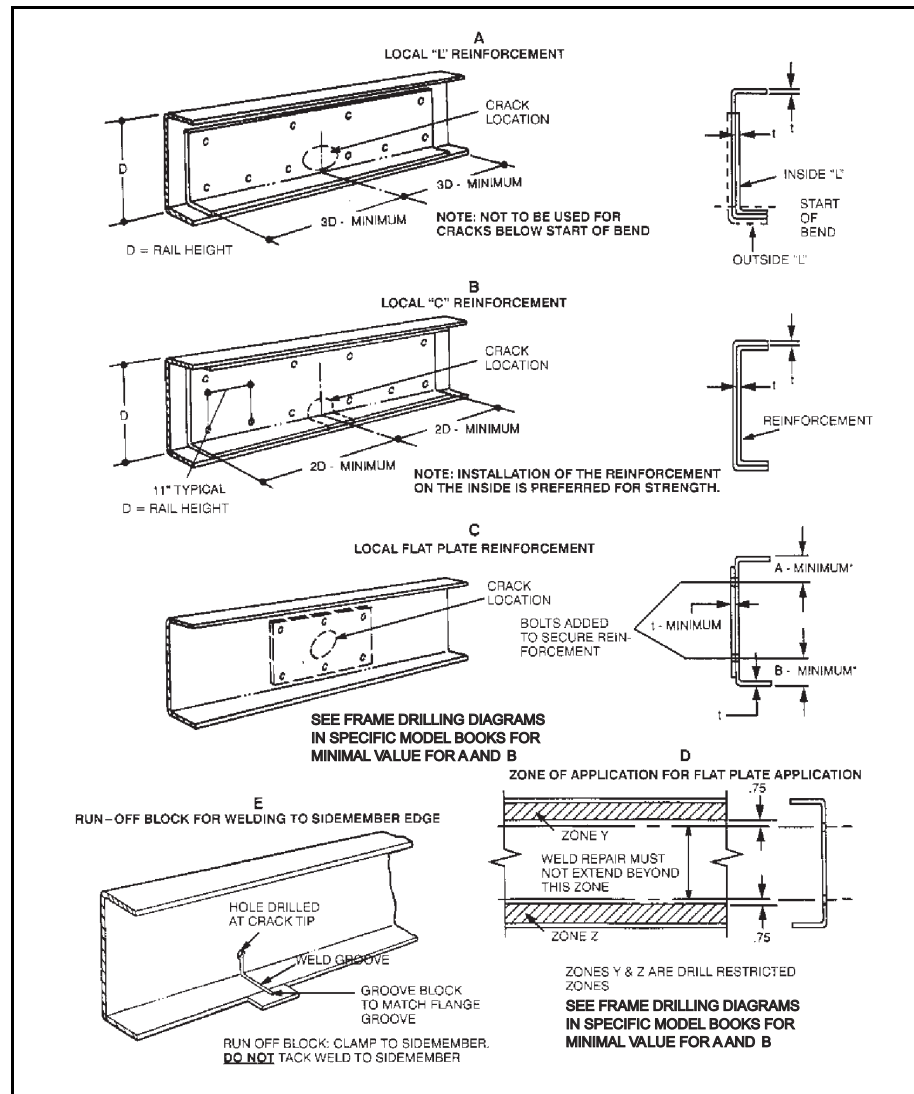

Figure 2.4 Reinforcement Application
The type, length, material and attachment techniques for reinforcements vary with the type and location of the crack and with the loading conditions associated with the crack. It is not practical to give specific recommendations for all cases of frame cracking, therefore the various types of reinforcements are identified with general descriptions of their applications and installation procedures. To aid in making the distinctions between the more critical flange area and the less critical web area, critical zones are defined as shown (Figure 2.4 D).
Steps 1 and 2 above also apply to the full length “L” reinforcements available from International. All of these are the inverted “L” type and are designed for installation on the outside of the sidemember section (except 9000 Series) (Figure 2.4 A).
This type of reinforcement must be custom-fabricated either by cutting lengths from “full length” reinforcements or by forming from flat stock (Figure 2.4 B).
2. Figure 2.4 B gives recommended dimensional data and attachment specifications for a typical installation. Holes drilled for the attachment must be within the frame drilling guidelines in the specific model body builder book.
This type of reinforcement is recommended for cases in which the weld repair is confined to the web of the section but extends beyond the application zone of the flat plate reinforcements shown in Figure 2.4 D.
1. Figure 2.4 A shows a typical installation for an “L” reinforcement on the inside of a sidemember section along with minimum recommended dimensions.
This reinforcement is intended for the less critical, web portion of the sidemember section where typical cracking is due to local stresses which tend to “diaphragm” or “dish” the web without creating appreciable stresses for overall bending of the section. Typical crack patterns radiate out from the edge of a mounting bracket or crossmember or from a hole in the web. Cracks which radiate from a web hole occupied by a fastener are frequently an indication of a defective joint, whether by the loosening of the fastener or poor joint design (Figure 2.4 C).
The flat plate reinforcements are recommended for weld repairs in which the weld does not extend beyond the zone defined in Figure 2.4 D.
1. A typical installation is shown in Figure 2.4 C. The length and height of the plate will vary with the size of the weld repair area. In general it should be such that it will accommodate an array of reinforcement attachment bolts at a typical 3 to 5 inch (76 to 127 mm) spacing all around the weld repair area.